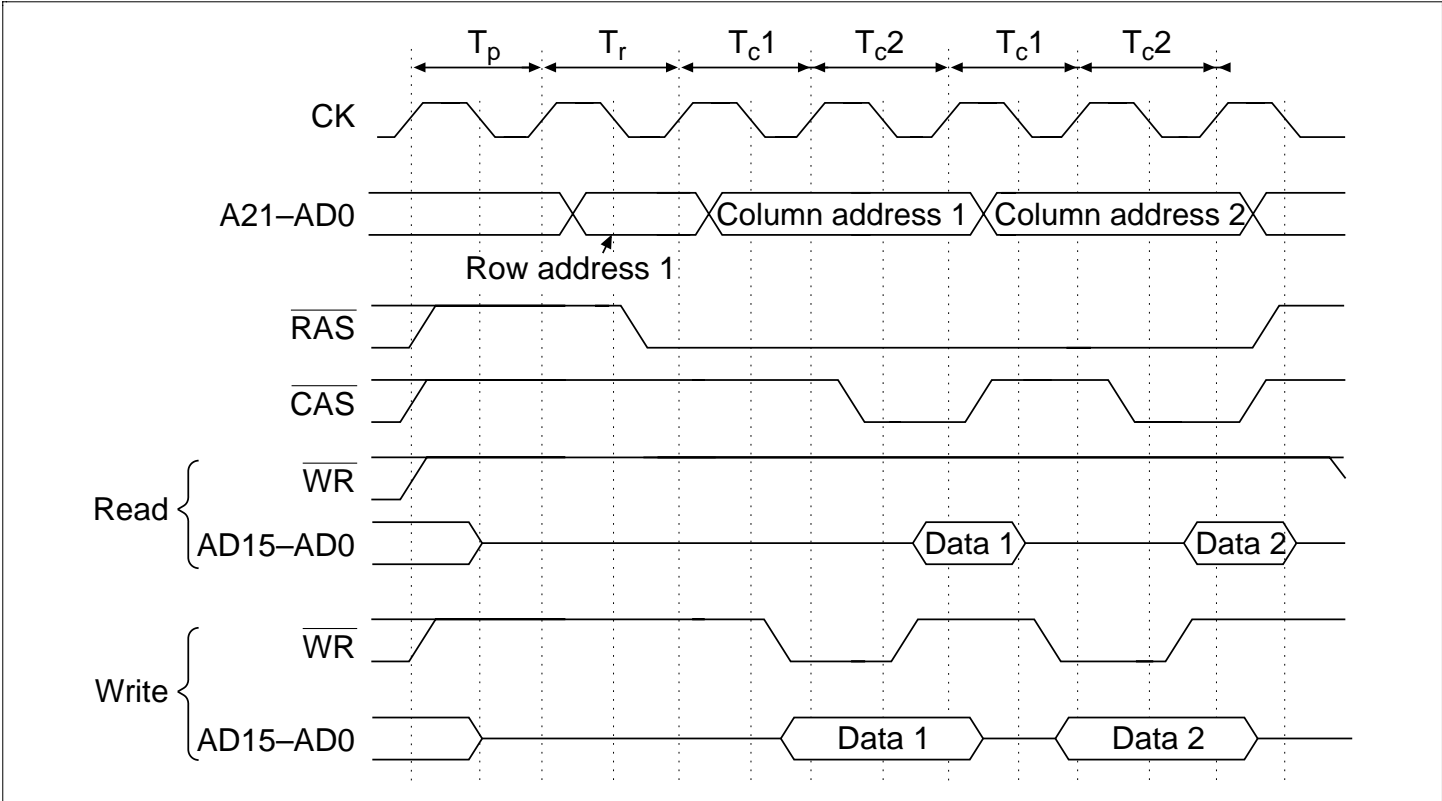

Figure 8.26 Long-Pitch, High-Speed Page Mode (Read/Write Cycle)
- Long-pitch, high-speed page mode: When the RW1, WW1, DRW1, and DWW1 bits in WCR1 and WCR2 are set to 1, and the corresponding DRAM access cycle is continuing, the $\overline{\text{CAS}}$ signal and column address output cycles (2 states) continue as long as the row addresses continue to match. When the $\overline{\text{WAIT}}$ signal is detected at the low level, the second cycle of the column address output cycle is repeated as the wait state. Figure 8.26 shows the timing for long-pitch, high-speed page mode. See section 20.3.3, Bus Timing, for more information about the timing.